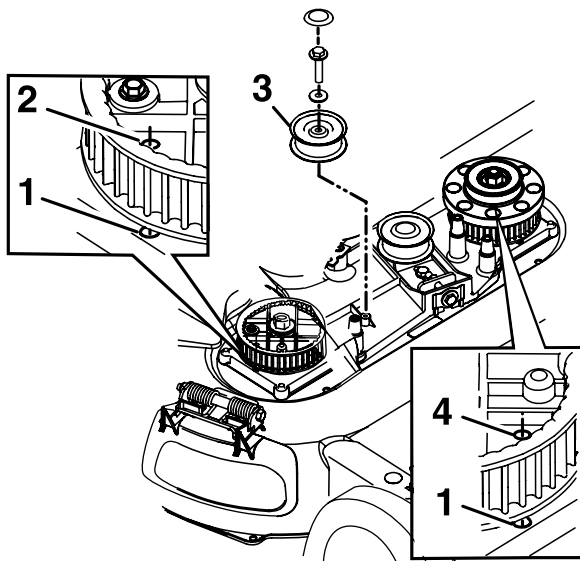

Figure 43
- 8. Remove the fixed idler pulley and the hardware (Figure 43).
- 10. Align the holes in the right and left sprockets with the holes in the housing as shown in Figure 43.